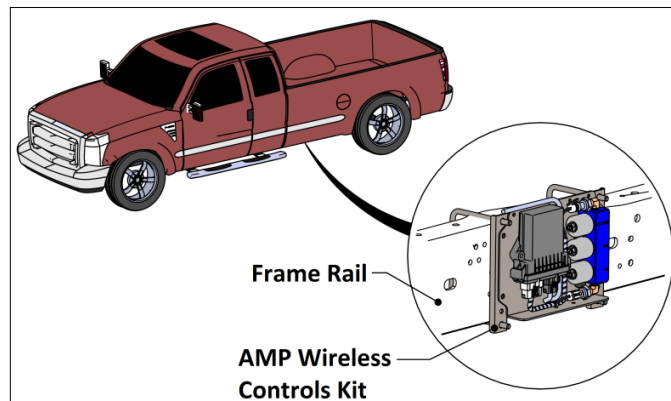

Figure 1A
- This kit is designed to be installed along the frame rail of pickup trucks, see Figure 1A.